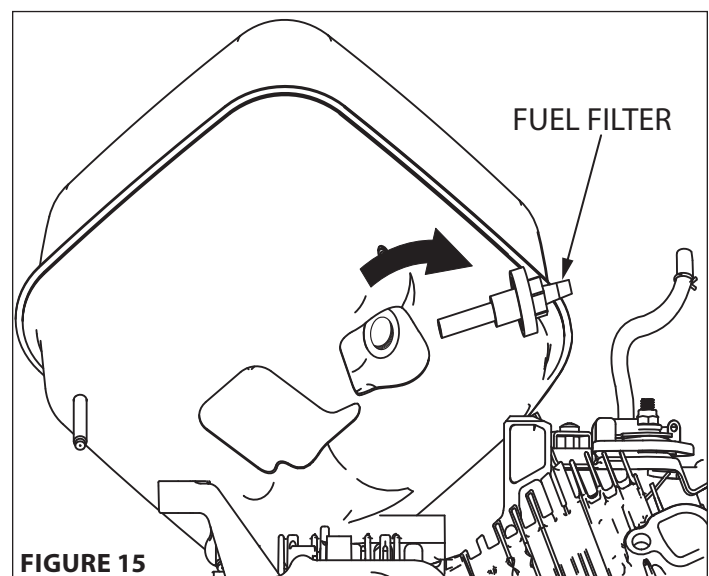

FIGURE 15
7. Remove fuel tank filter by using proper size socket to turn filter counter clockwise. **SEE FIGURE 15**